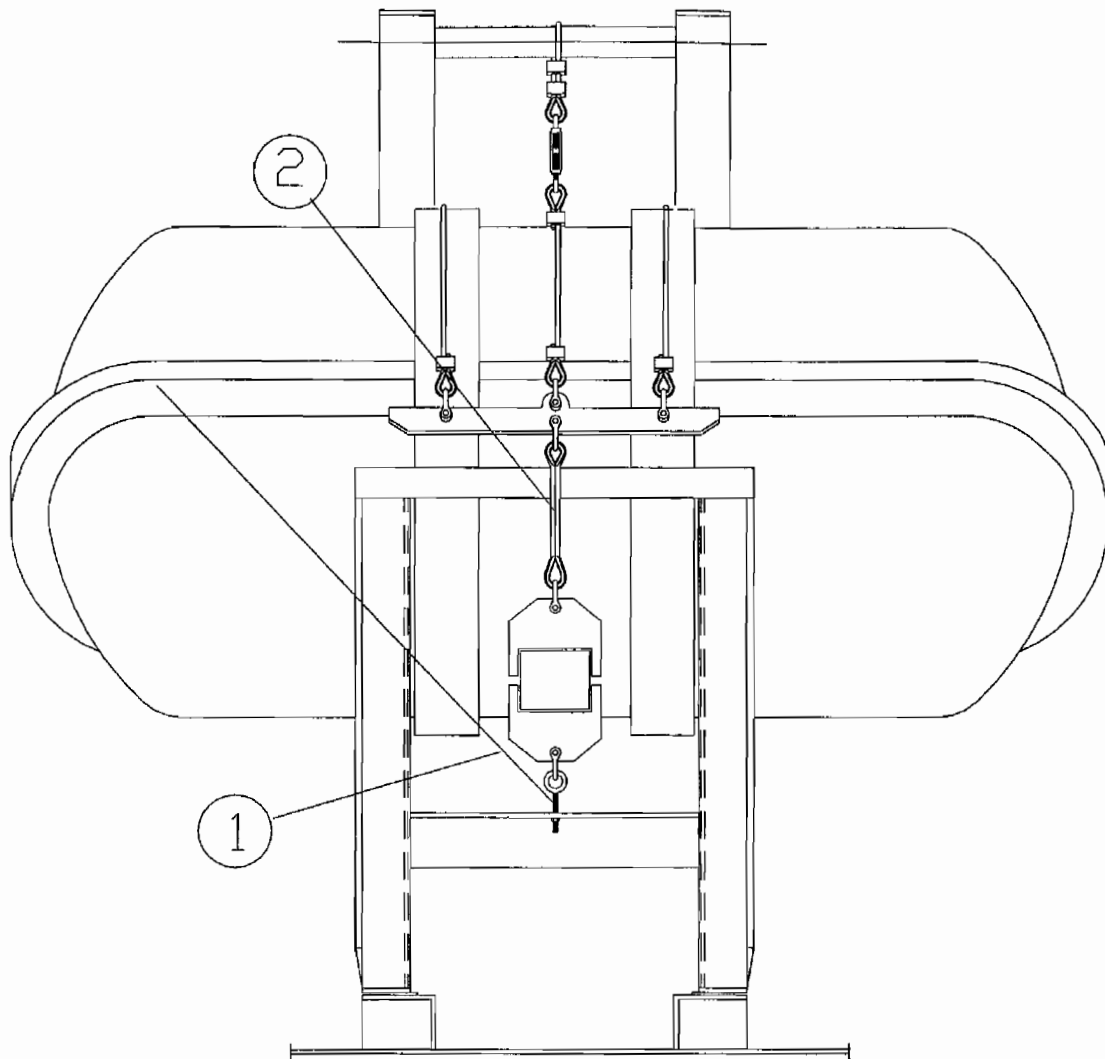

Figure 3-6. Life Raft
a. Replace (Refer to Figure 3-6)